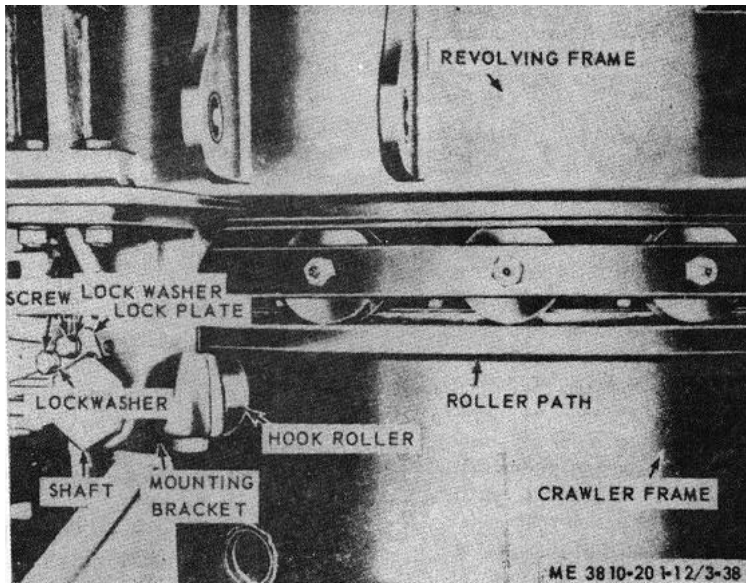

Figure 3-30. Hook roller adjustment points.
b. Remove screws, lockwashers and keeper plate (fig. 3-30), then rotate eccentric shafts until both rollers are snug against bottom of roller path. A maximum of 1/16 inch clearance is allowed between hook rollers and roller path. When adjustment is correct, install keeper plate and secure with lockwashers and screws.